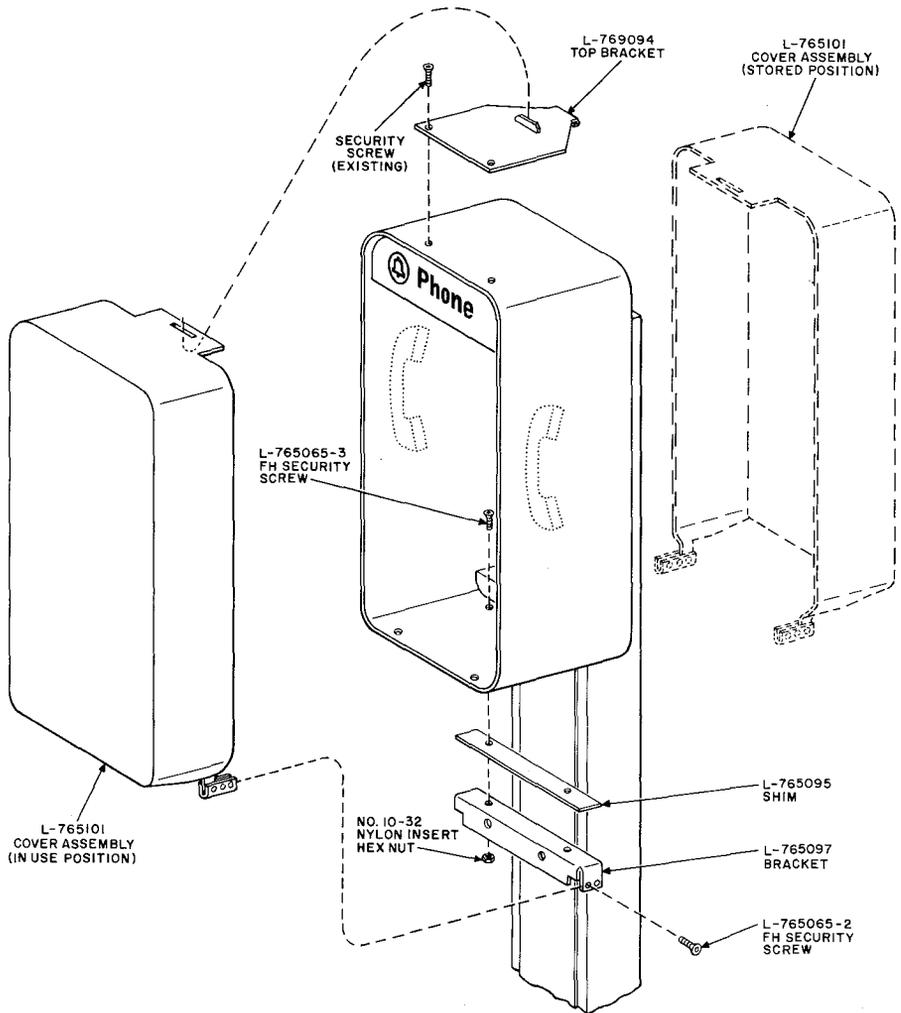

Fig. 45—KS-2084, List 75 Cover Assembly—Installation Procedure
- (a) Install the List 75 cover assembly per Fig. 45. All components are furnished.